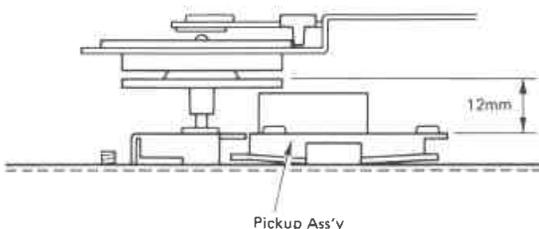

Fig. 8
- 2) Confirm that the installation distance between the top of turntable and the top of pickup ass'y is 12 ± 0.2 mm (Fig. 8).